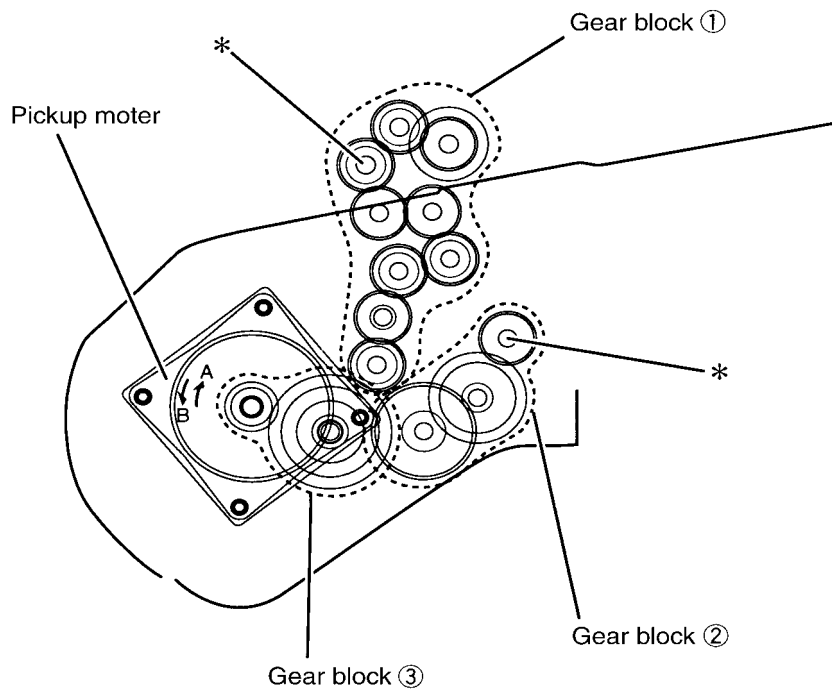

Fig. 3-19
- b. The drive system is shown in Fig. 3-19.
- 1) The gear block ① belongs to drive system for pickup roller and separation roller.
- 2) The gear block ② belongs to drive system for document tray lift mechanism.
- 3) The gear block ③ belongs to drive system for pickup roller, separation roller, and document tray lift mechanism in common.
- c. Document tray cam is an eccentric type cam, and is connected to document tray lift gear block mentioned in Fig. 3-19.